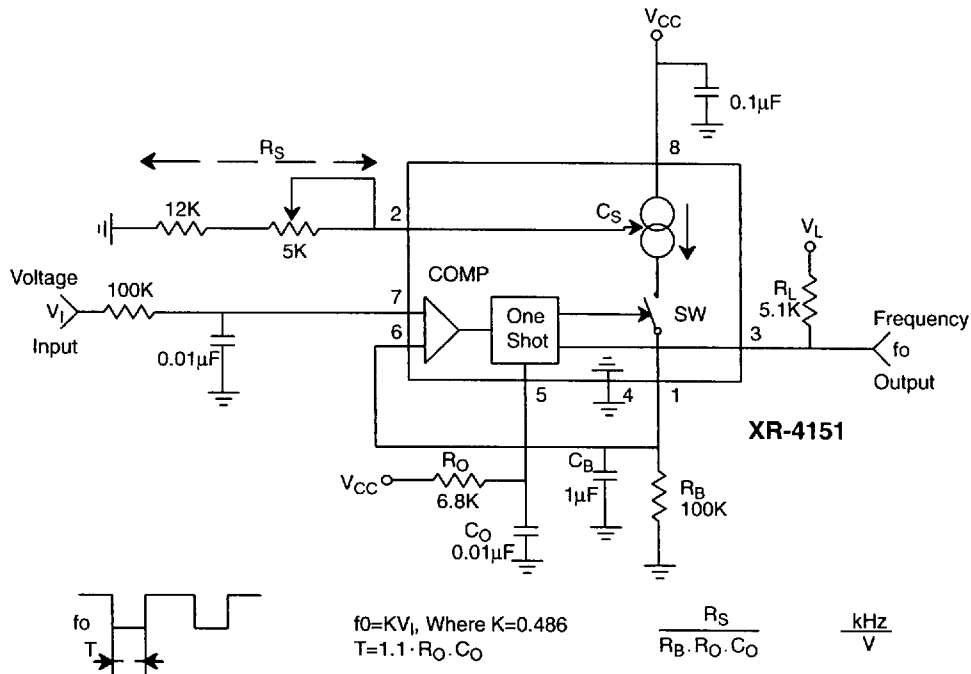

Figure 2. Voltage-to-Frequency Converter
In this application, the XR-4151 functions as a stand alone voltage-to-frequency converter operating on a single positive power supply. Refer to the functional block diagram and *Figure 2*, the circuit connection for single supply voltage-to-frequency conversion. The XR-4151 contains a voltage comparator, a one-shot, and a
Figure 2 shows the simplest type of VFC that can be made with the XR-4151. The input voltage range is from 0 to +10V, and the output frequency is from 0 to 10kHz. The full scale frequency can be tuned by adjusting R_S , the output current set resistor. This circuit has the advantage of being simple and low in cost, but it suffers from inaccuracy due to a number of error sources. Linearity error is typically 1%. A frequency offset will also be
introduced by the input comparator offset voltage. Also, response time for this circuit is limited by the passive integration network $R_B C_B$. For the component values shown in Figure 2, response time for a step change input from 0 to +10V will be 135msec. For applications which require fast response time and high accuracy, use the circuit of Figure 3.
4. Avoid stray coupling between pins 5 and 7; it could cause false triggering. For the circuit of *Figure 2*, bypass pin 7 to ground with at least $0.01\mu\text{F}$. This is necessary for operation above 10kHz.
3. a) For the circuit of *Figure 2* make $C_B = 10^{-2} [1/f_0]$ Farads.